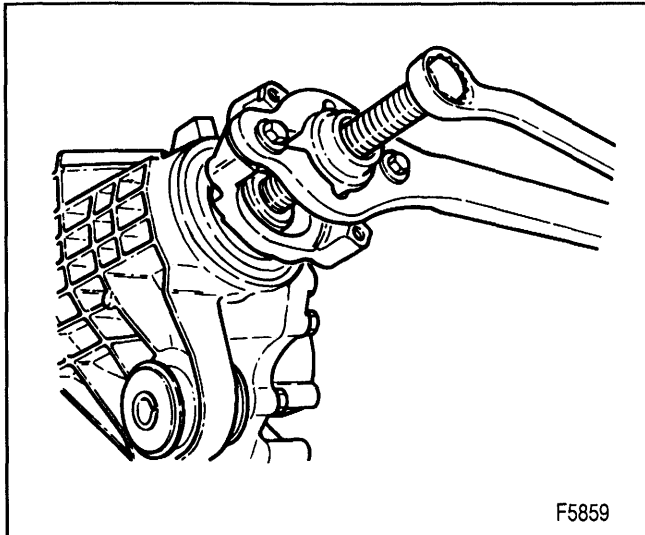

Figure 28—Removing/Installing the Pinion Flange
3. Flange using J 8614-01 (figure 28).
Install or Connect (Figures 28 and 29)
3. Flange onto the pinion using J 8614-01 (figure 28).